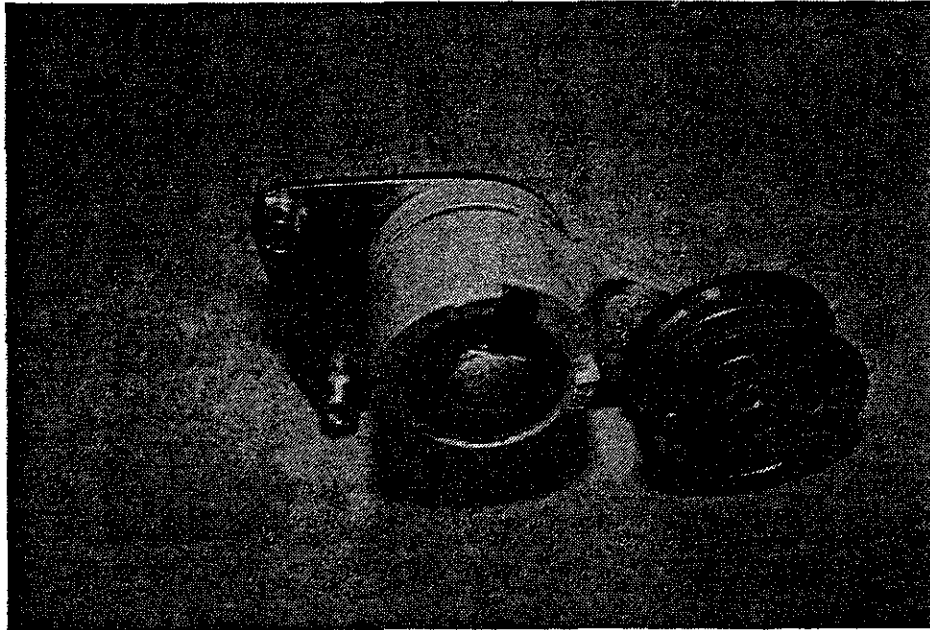

FIGURE 9
13. Place the stock Idler Pulley Assembly on the Paxton Belt Tensioner Plate (P/N 48067), using the 1/2-13 x 3-1/2" Carriage Bolt (P/N 48082) provided and the 1/2-13 nut and washer (P/N's 102822 and 101320), as shown in Figure 9.